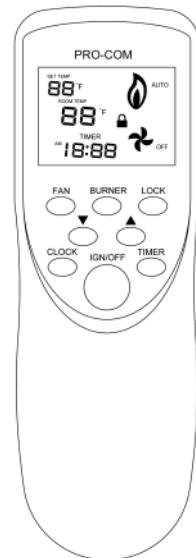

Fig 12-Front of the Transmitter
1. Press the IGN/OFF button.(see fig 12)